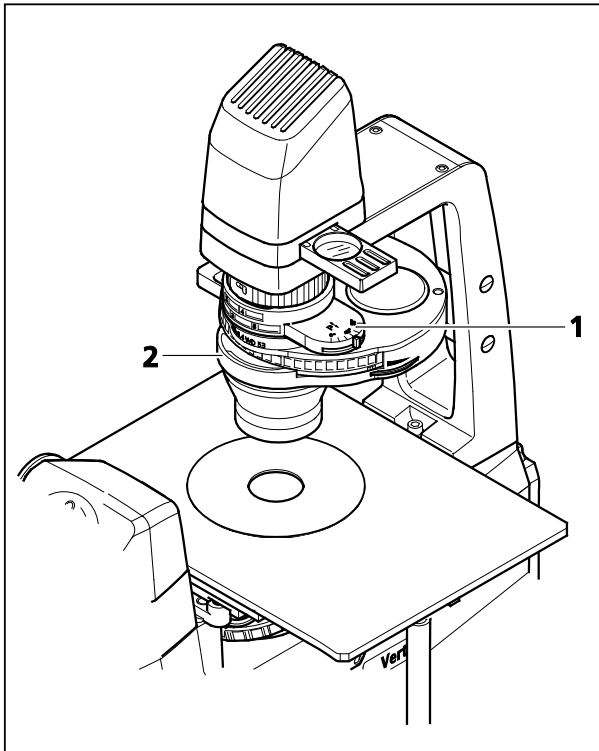

Fig. 4-12 Setting Bright Field
- Slide polarizer DL (Fig. 4-12/1) on the condenser (Fig. 4-12/2) in the light path.